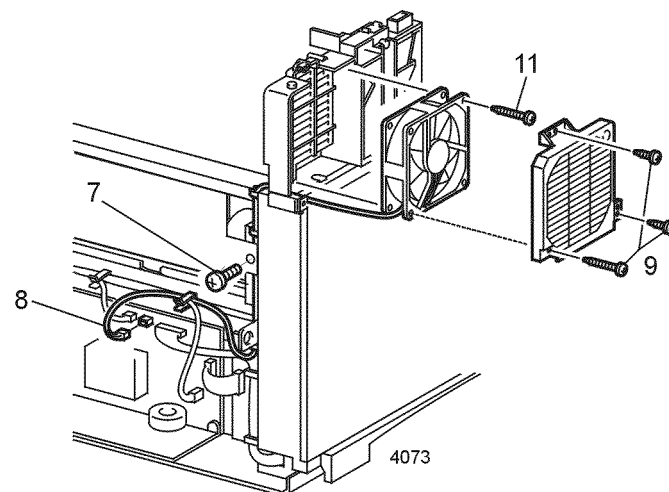

Figure 1 Main Fan
8. Disconnect P/J165 from the LVPS PWB (Figure 1).
9. Remove the three screws that secure the Fan Guard to the printer (Figure 1).
11. Remove the screw that secures the Main Fan to the printer (Figure 1). Remove the fan.